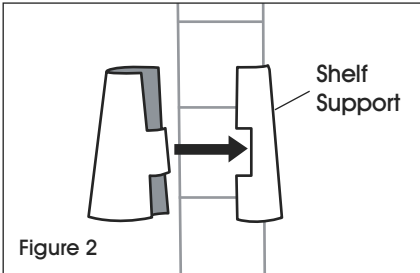

Figure 2
1. Start with the lowest shelf. Snap the interlocking pieces of a shelf support (wide end down) around the post at the lowest groove where shelf is to be located. Slide the support up or down until it snaps onto the groove. Add a shelf support to the same place on the remaining posts. (See Figure 2)